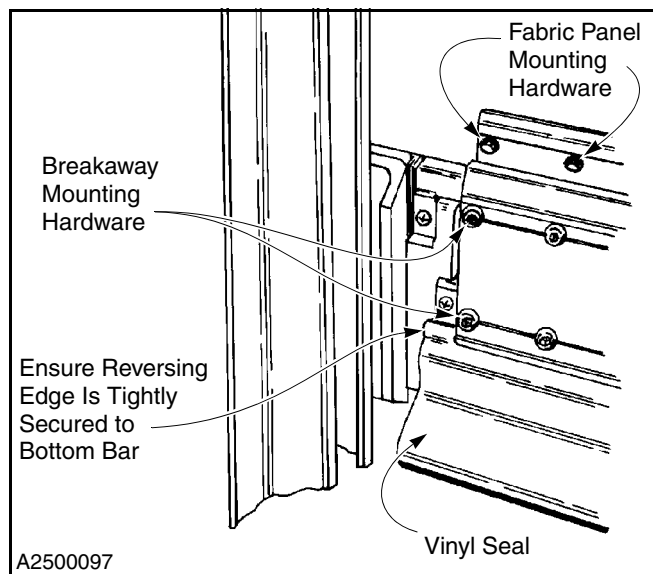

Figure 24
2. Check the hardware used to secure the breakaway assembly to the bottom bar. Tighten as required. (See Figure 24.)